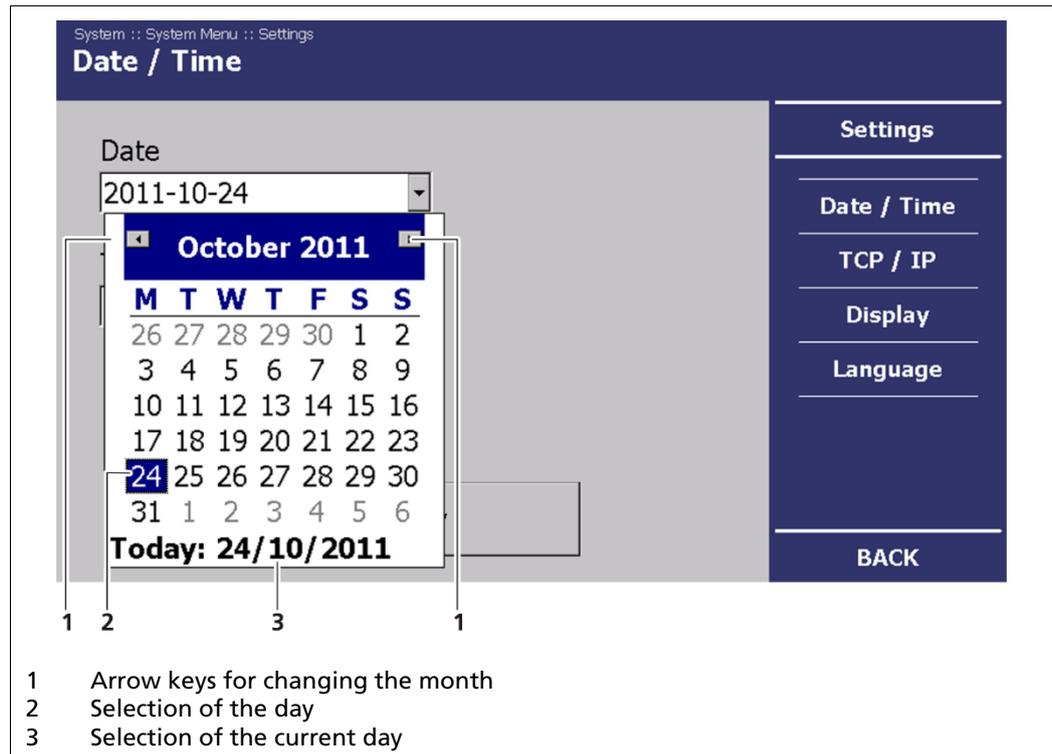

Fig. 25 System menu, Settings - Set Date
3. Set the month (Fig. 25, Item 1) by clicking on the arrow keys.
4. Set the day (Fig. 25, Item 2) by clicking on a number in the calendar. Alternatively, you can also set the current day by clicking on "Today" (Fig. 25, Item 3).
- The date set is displayed (Fig. 25, Item 3).